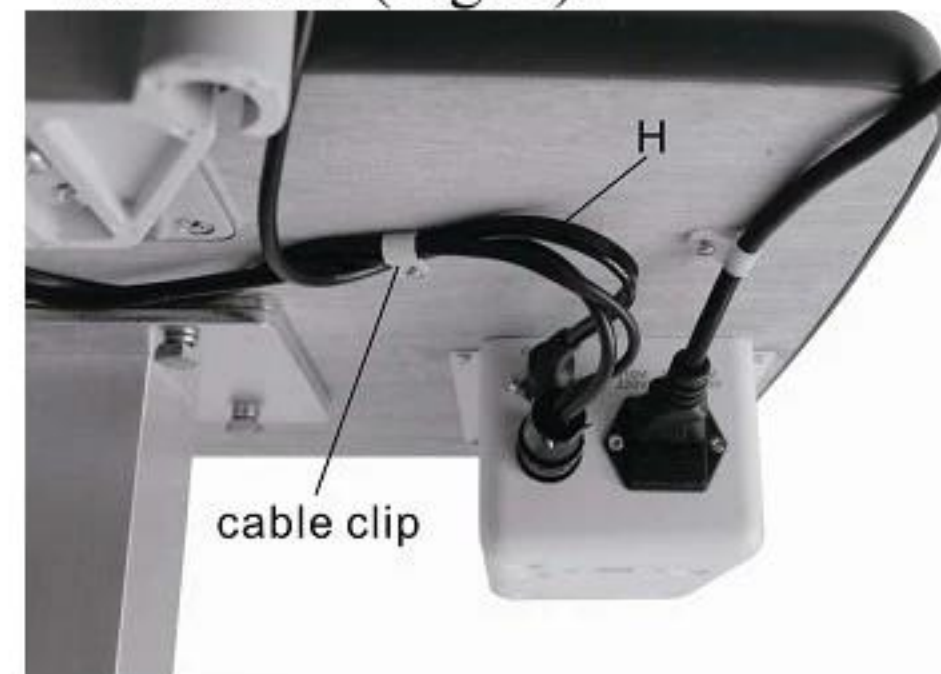

Fig.14
- ✧ Insert the plug of the input power cable (H) into the input socket of the power box. .
- ✧ Remove the cable clips from the bottom of the work table with screw driver (U) and wrap the output and input cables respectively, then reattach them to the bottom of the work table. (Fig14).